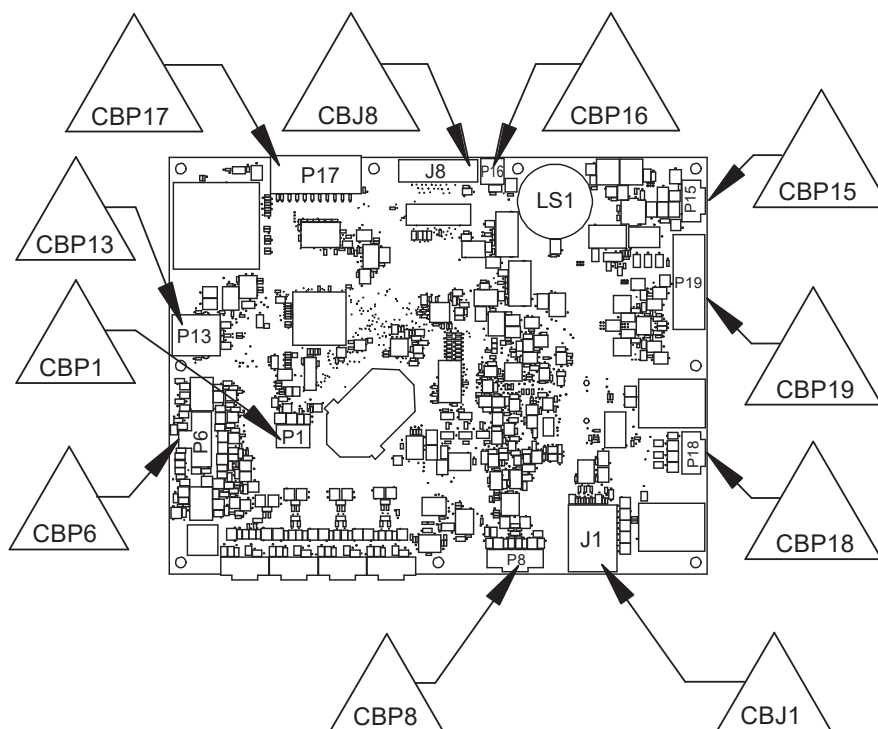

Figure 3-6. Control Board Connector Identification
These instructions outline the basic steps to replace the control board. Refer to Figure 3-6.
2. Connect wires as shown in Figure 3-6.